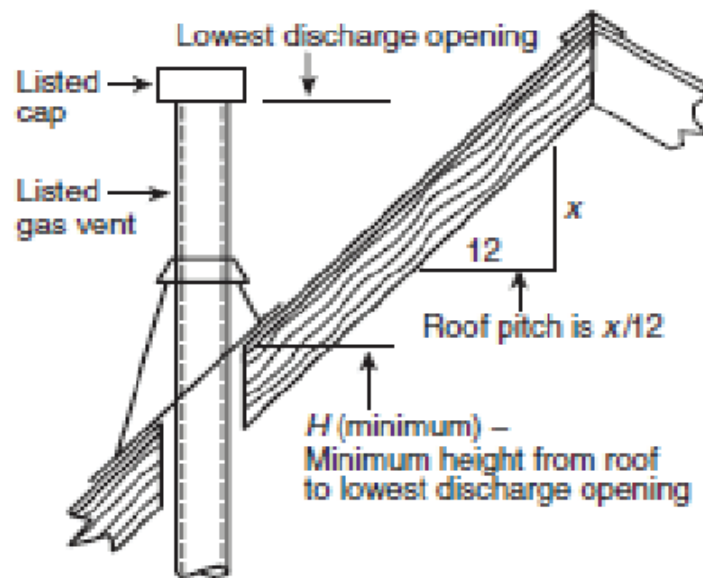

Figure 9. Roof Slope and Pitch
- a. For double-wall vent pipe and a horizontal distance to any vertical wall or similar obstruction of 8 feet or greater, the vent must terminate above the roof in accordance with Figure 9 and Table 10.
*See Figure 9. Termination locations for gas vents with listed caps 12 inches (300 mm) or less in size at least 8 inches (2.4 meters) from a vertical wall.